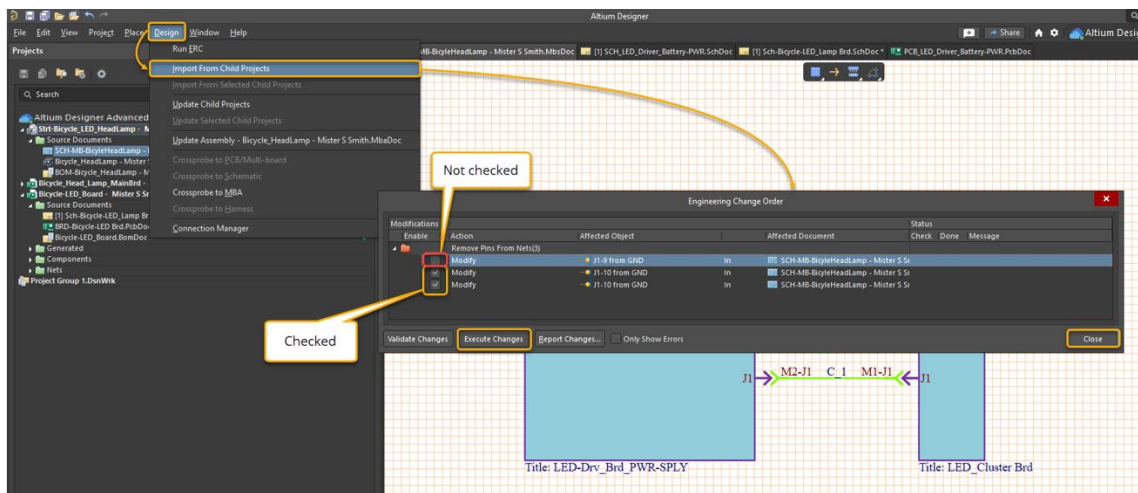

Figure 18. Import changes from child projects to MB Project
47. Select from menu **Design » Import From Child Projects**. See Figure 18 below.